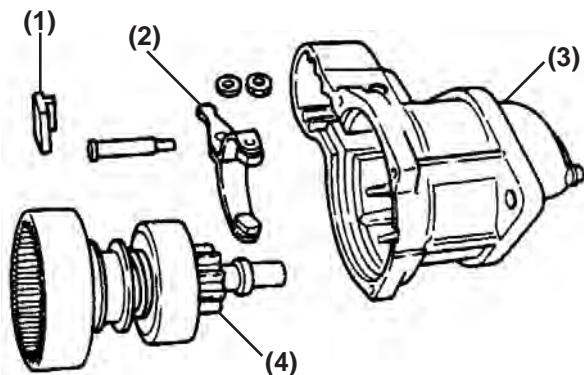

Figure 10-30
- Apply a small amount of high temperature lithium grease (obtain locally) to the contact surfaces of the shift lever. Reassemble the shift lever (**Figure 10-30, (2)**), spacer (if equipped) (**Figure 10-30, (1)**) and pin.
- Reinstall the pinion shaft assembly (**Figure 10-30, (4)**) in the pinion housing (**Figure 10-30, (3)**). Be sure the shift lever properly engages the pinion.